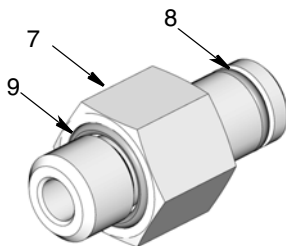

FIG. 8
4. Be sure the two o-rings (8, 9) are correctly installed on bolt (7) as shown in FIG. 8. Apply a thin coating of grease around o-rings.